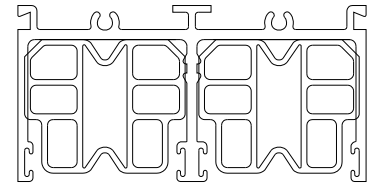

Figure 22:
3. Install head bumpers into head (Figure 22).